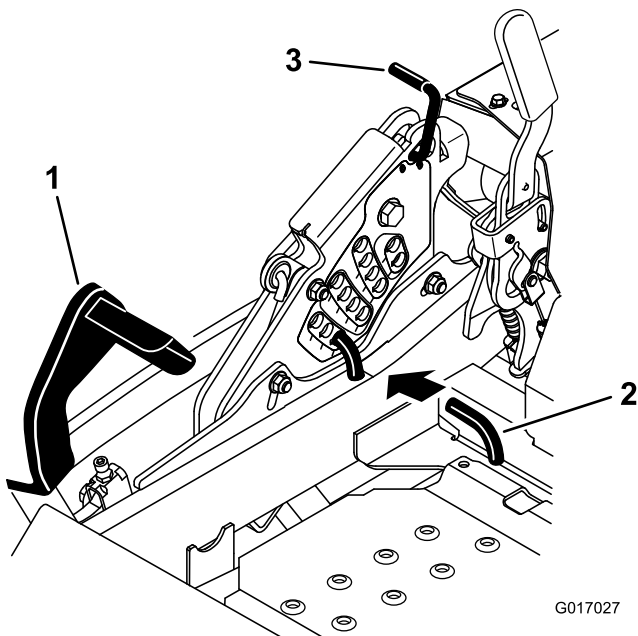

Figure 85
5. Push the deck lift pedal all the way forward and the deck will latch at the 5 1/2 inch (14 cm) transport position (Figure 85).